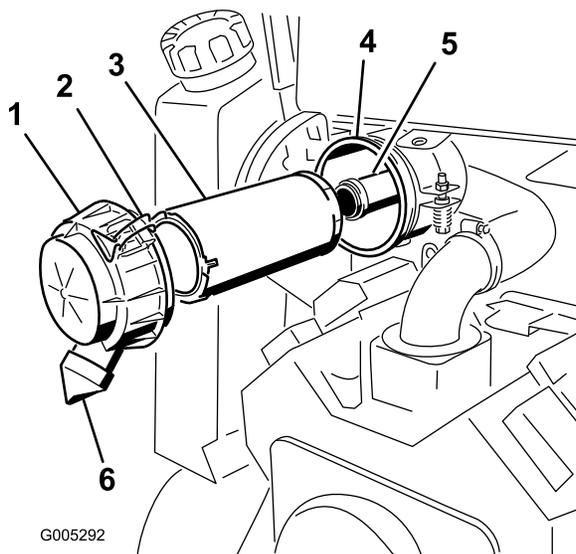

Figure 20
2. Release the latches on the air cleaner and pull the air cleaner cover off of the air cleaner body (Figure 20).
6. Gently slide the primary filter out of the air cleaner body and discard it (Figure 20). Avoid knocking the filter into the side of the body.
7. If you are also replacing the safety filter, gently slide it out of the air cleaner body and discard it (Figure 20).. Avoid knocking the filter into the side of the body.
2. If you are replacing the safety filter, carefully slide it into the air cleaner body (Figure 20).. Ensure that it is fully seated by pushing firmly on the outer rim of the filter while installing it.
3. Carefully slide the primary filter into the air cleaner body (Figure 20).. Ensure that it is fully seated by pushing firmly on the outer rim of the filter while installing it.
4. Install the cover, spacer and secure it with the cover nut (Figure 20). Torque the nut to 95 inch-lb (11 N-m).
5. Install the air cleaner cover with the rubber outlet pointing down in a 5:00 to 7:00 position (viewed from the end)(Figure 20) and secure it with the latches..